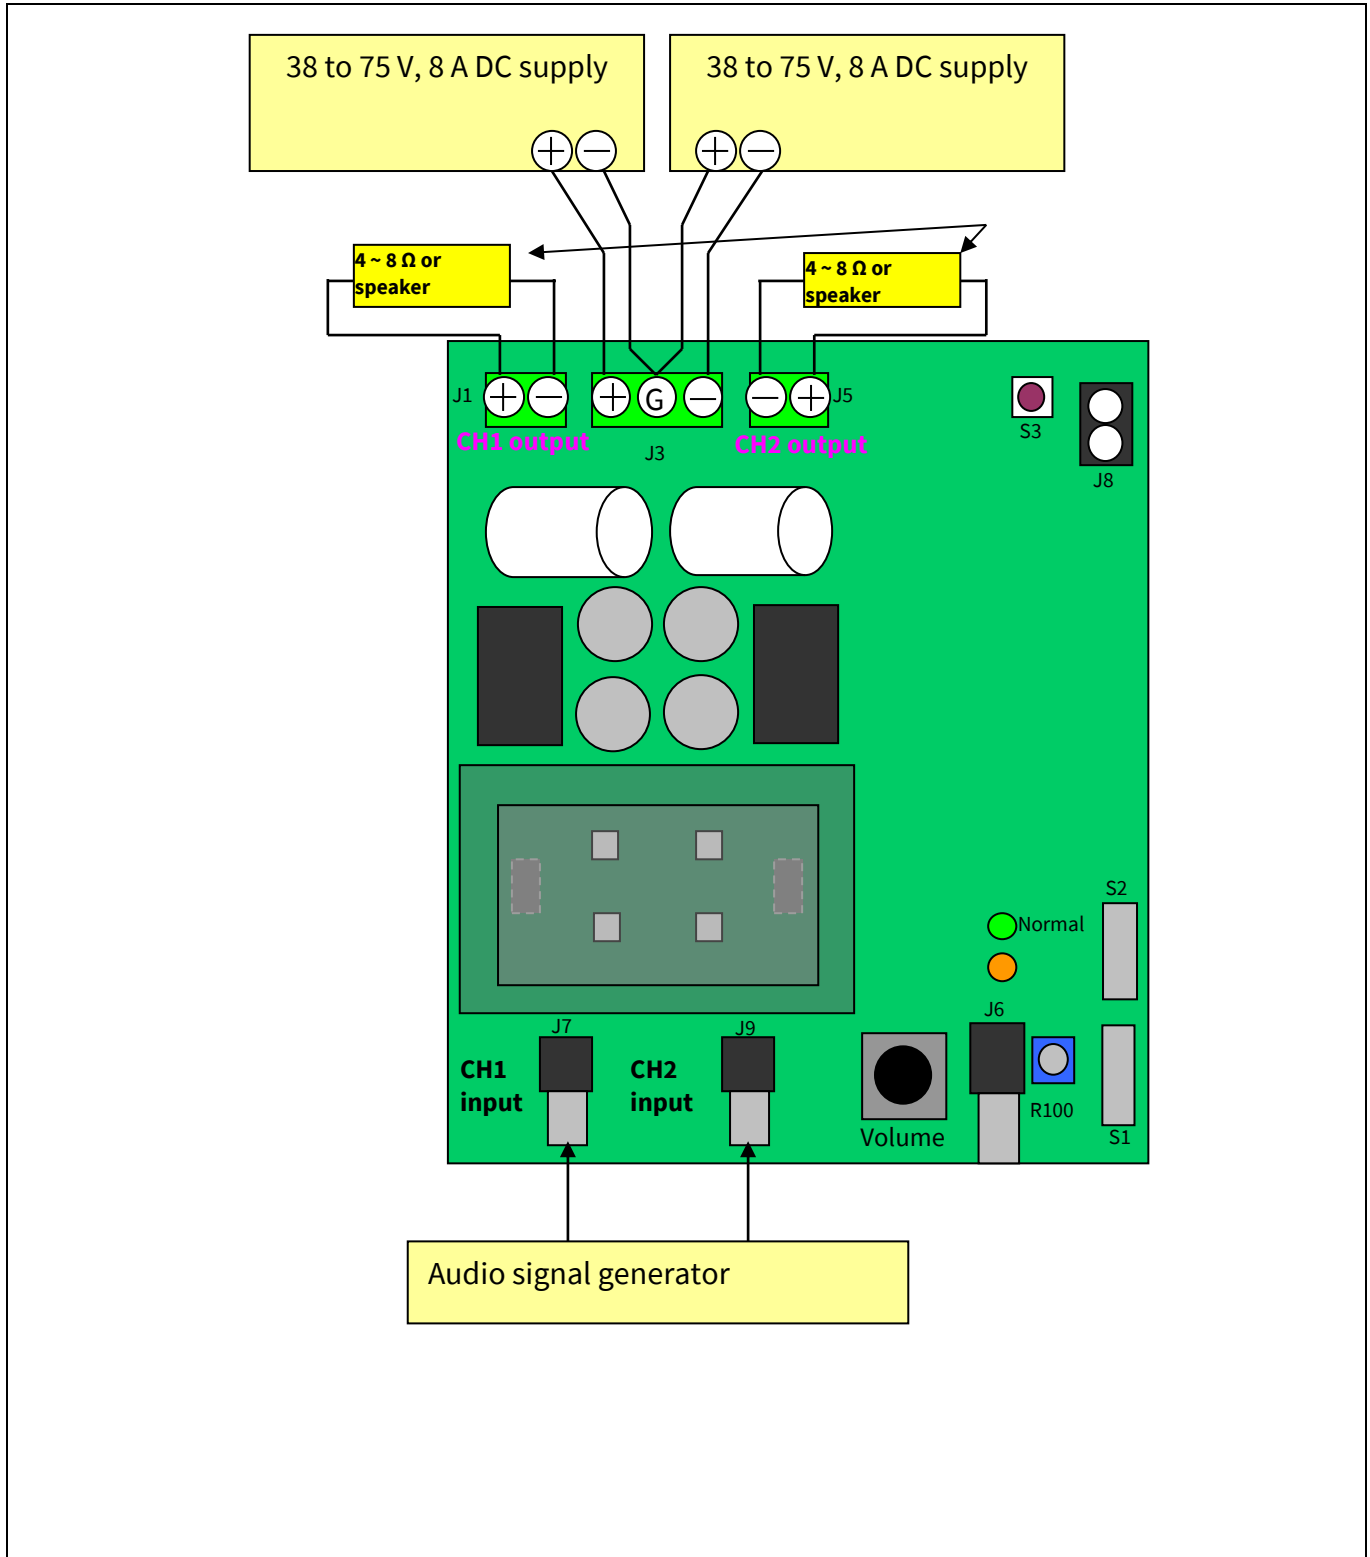
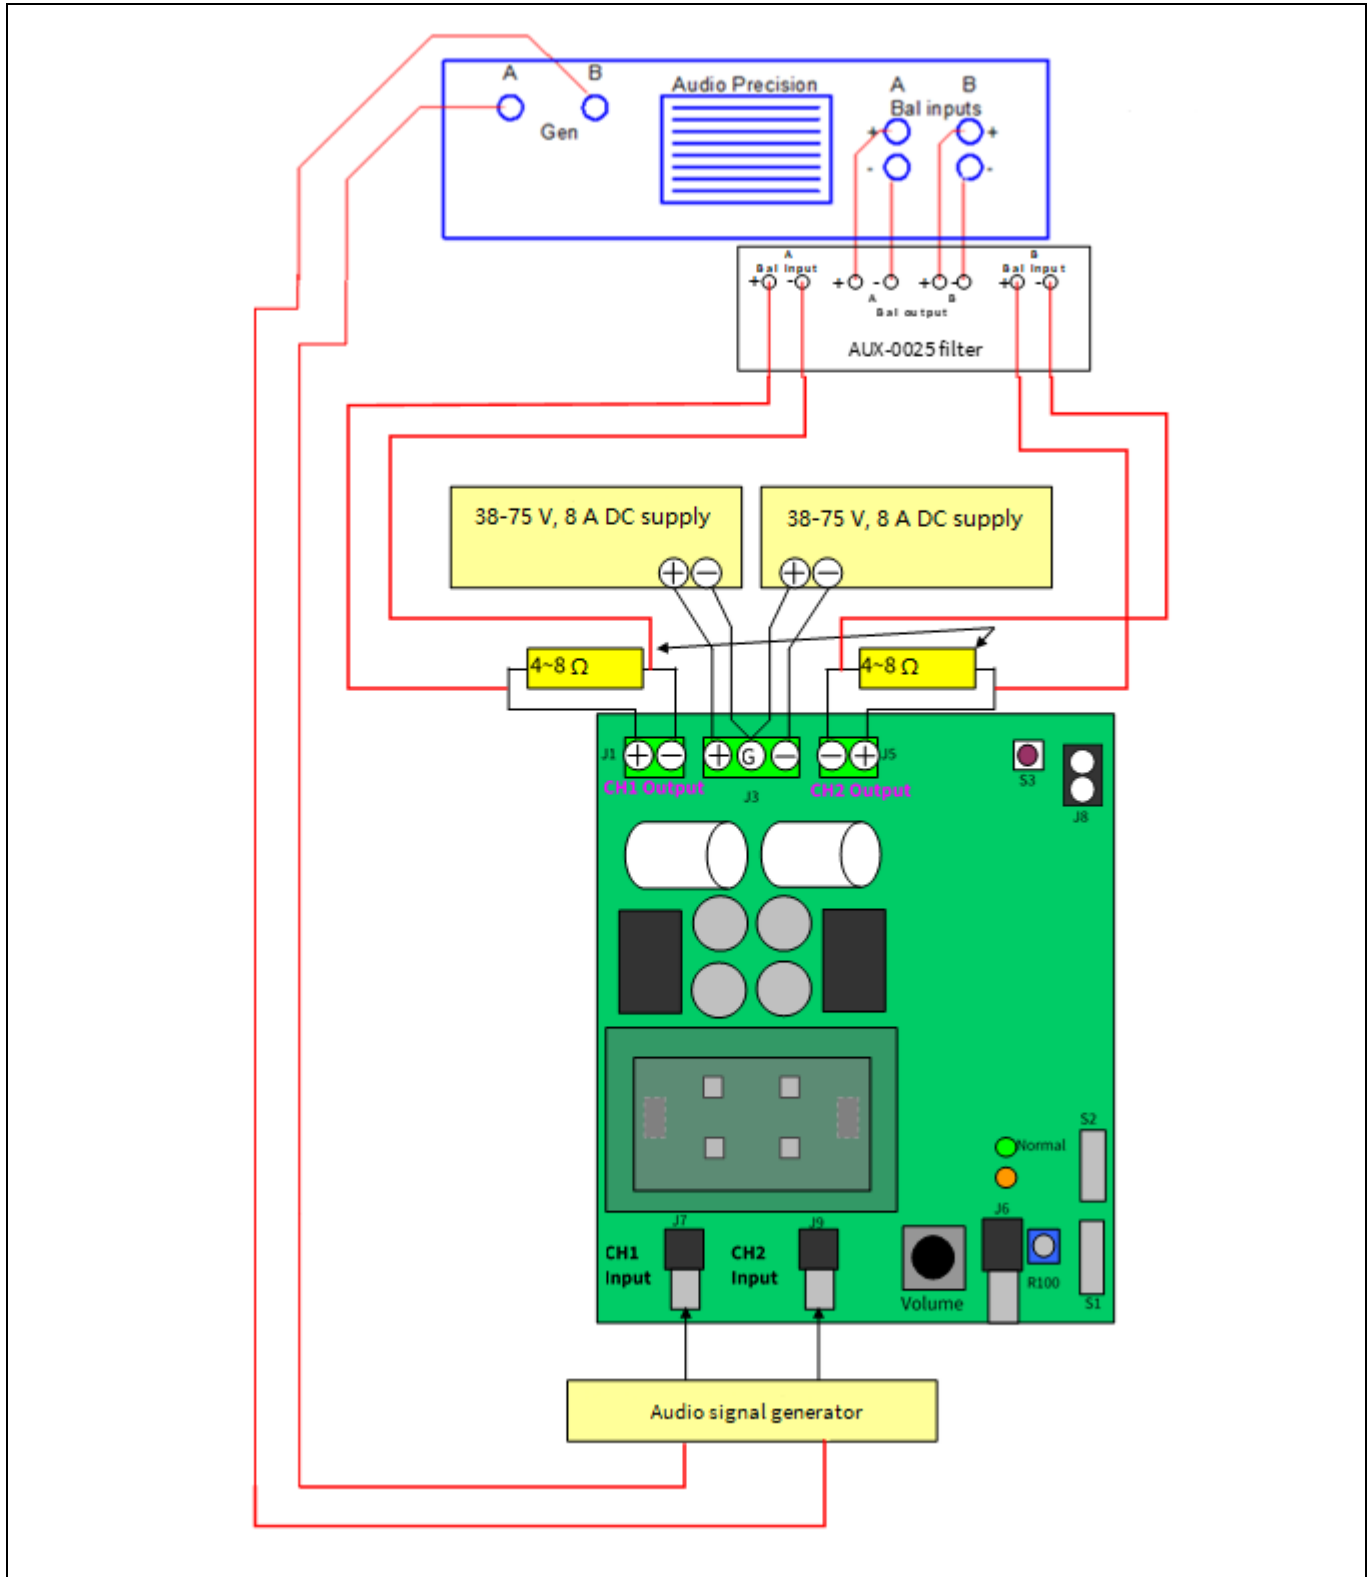

Figure 3 Typical connections
Figure 4 Audio analyzer connection
1. Connect 4 or 8 Ω 250 W dummy loads to output connectors (J1 and J5 as shown in Figure 3) and parallel it with input of the Audio Precision (AP) analyzer.
2. Connect the Audio Signal Generator (ASG) to J7 and J9 for CH1 and CH2 respectively (AP).
7. Connect the dual power supply to J3, as shown on Figure 3 or Figure 4.